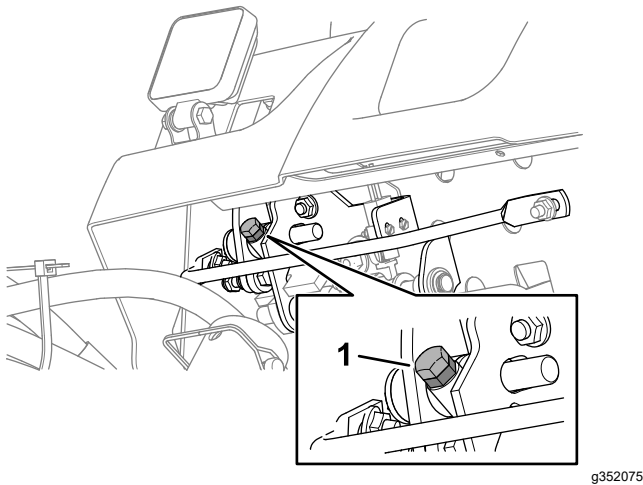

Figure 89
- To decrease the mow speed, rotate the speed stop screw (Figure 89) clockwise.